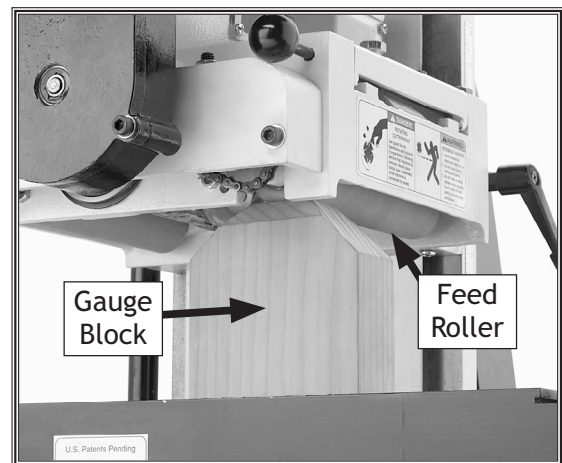

Figure 55. Gauge block.
4. Place the finished block on the table, directly under one end of the infeed roller (**Figure 55**).
5. Lower the cutterhead housing so the infeed roller barely touches the gauge block on the lowest end of the roller (**Figure 55**).